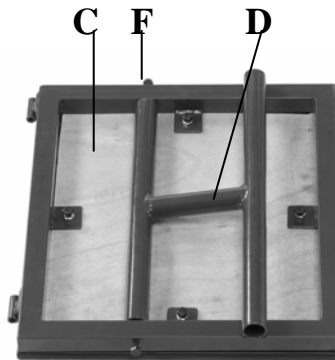

Fig. 2
2. Attach the adjustable supports, Part (D), to the foot platforms, Part (C), using 1 Bolt (F) per hole. (Fig. 2)